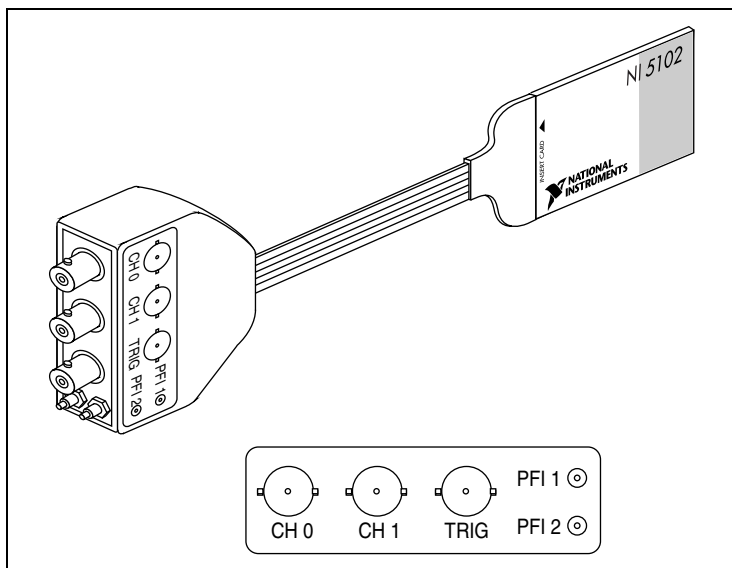

Figure 11. NI PCMCIA-5102 Front Panel
- ◆ **NI PCMCIA-5102 Front Panel**—Figure 11 shows the NI PCMCIA-5102 front panel. Use the cable assembly provided with your digitizer for the connections on the NI PCMCIA-5102.